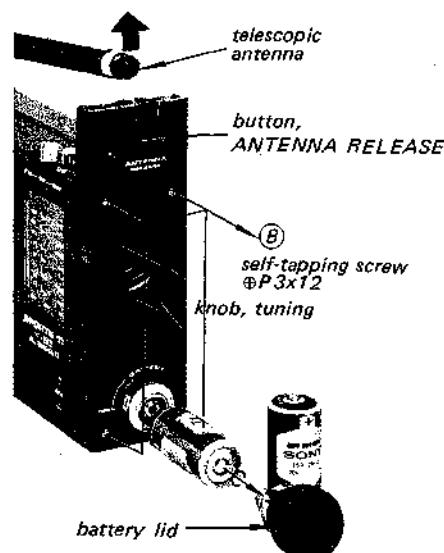

Fig. 2-2.
1. Press down the ANTENNA RELEASE button shown in Fig. 2-2.
3. Remove the four screws labeled **B** in Fig. 2-2.
4. Pull off the right side cover with the tuning knob and battery lid as shown in Fig. 2-2.